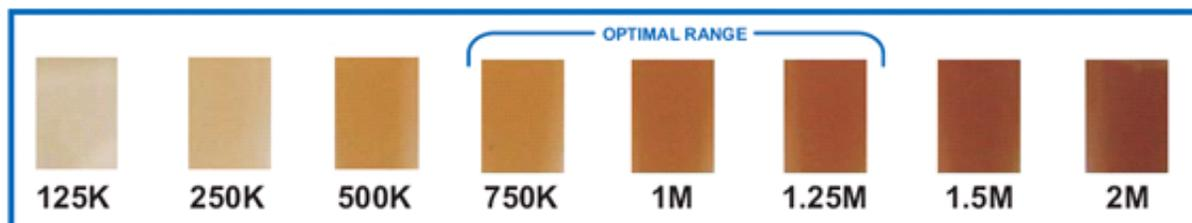
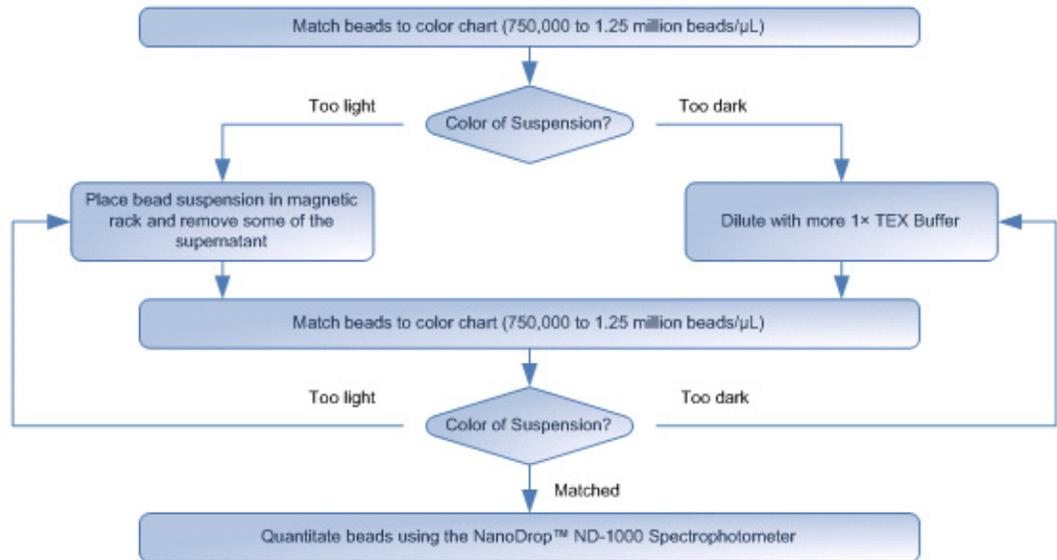

Figure 33 The SOLiD™ Bead Concentration Chart. For best results, use the SOLiD™ Bead Concentration Chart (PN 4415131), supplied separately.
Figure 34 The SOLiD™ Bead Concentration Chart workflow
3. Use the SOLiD™ Bead Concentration Chart (Applied Biosystems PN 4415131) to estimate the bead concentration of the beads (see Figure 33).
4. Adjust the volume of beads so that the color of the bead solution matches a color in the optimal range (750,000 beads/ μL to 1.25 million beads/ μL ; see Figure 33 and Figure 34 on page 67).